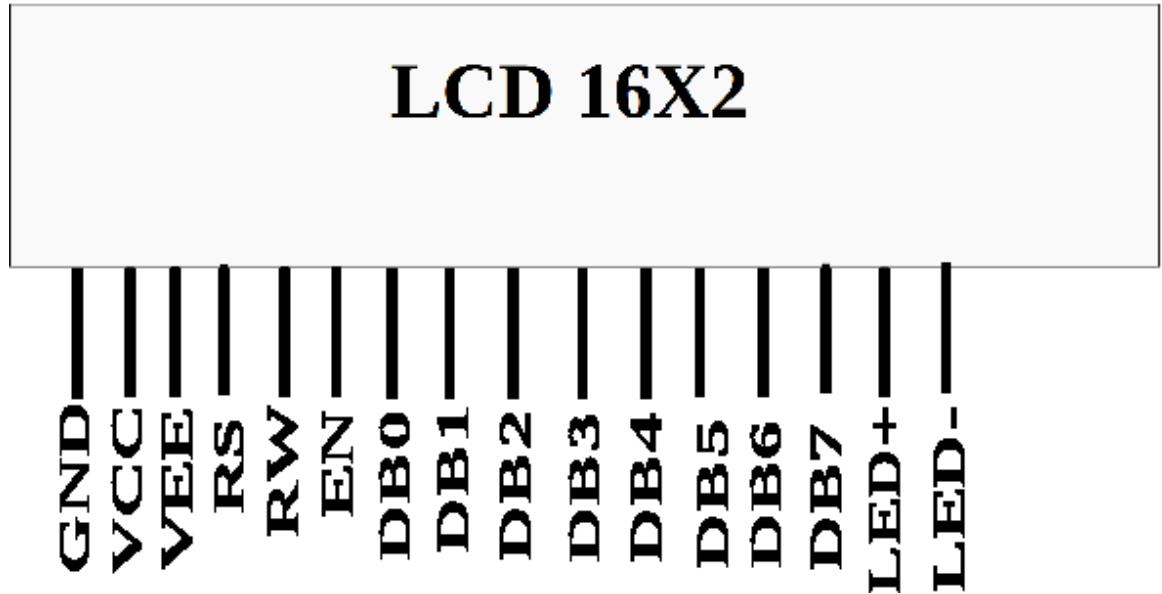

Figure 9.5.1.1: lcd
- 9.5.1. Plug the LCD in Fig. 9.5.1.1 to the breadboard.